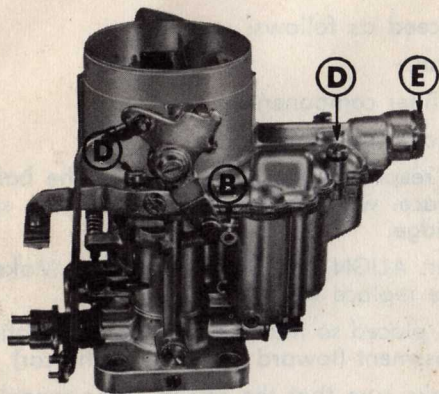
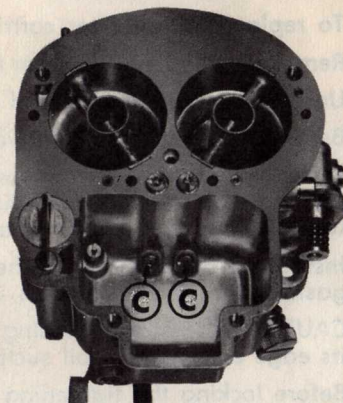
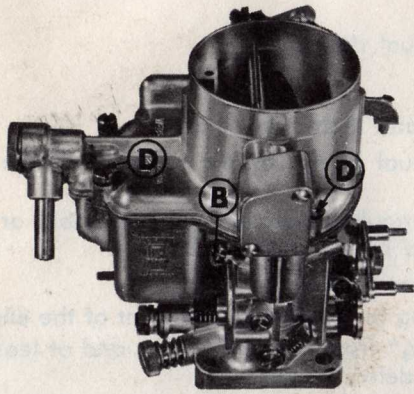

fig. 44
fig. 45
fig. 46
Although the main jets (C—fig. 45) and idling jets (B) of each barrel appear to be identical, they have a different calibration and therefore are not interchangeable.
CAUTION: To avoid incorrect installation, it is advisable not to remove the jets. If they must be inspected, identify and reach them as follows: Main Jets: They are located in C fig. 45. To reach them, remove the cover by loosening screws D (fig. 44, fig. 46). Idling jets: Loosen screws B (fig. 44, fig. 46.)